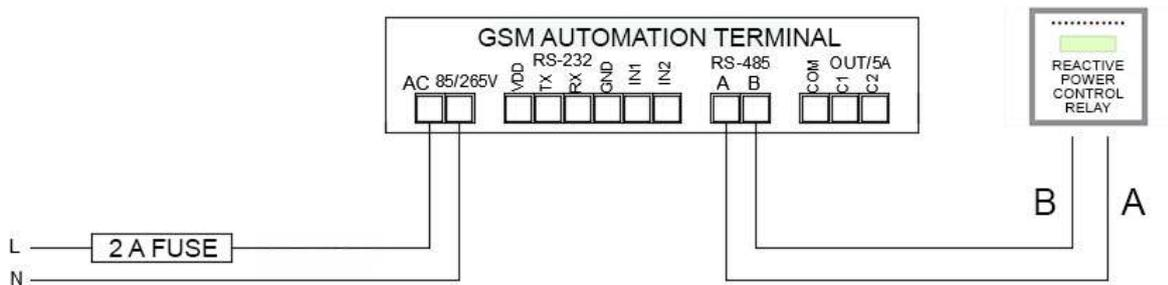

Figure 4.1
- d. Modbus Device (Relay, analyzer, etc.) / RS-485: See. Figure 4.1; 4.2